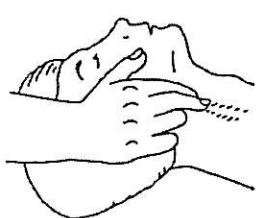
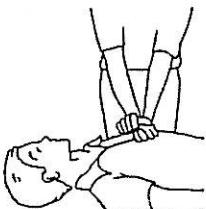
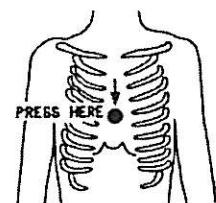

Figure 3
Figure 4
Figure 5
- Check carotid pulse (Figure 3); if pulse is absent, begin artificial circulation (Figure 4) depressing sternum 1 1/2" TO 2" (Figure 5).